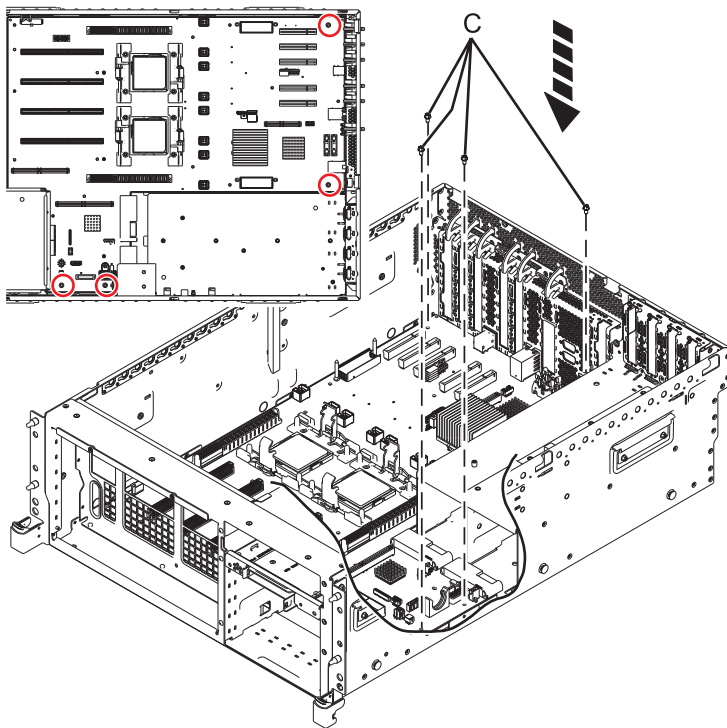

Figure 13. Installing the system backplane
- e. Tighten the four screws (C) that secure the system backplane to the system chassis. See Figure 13.